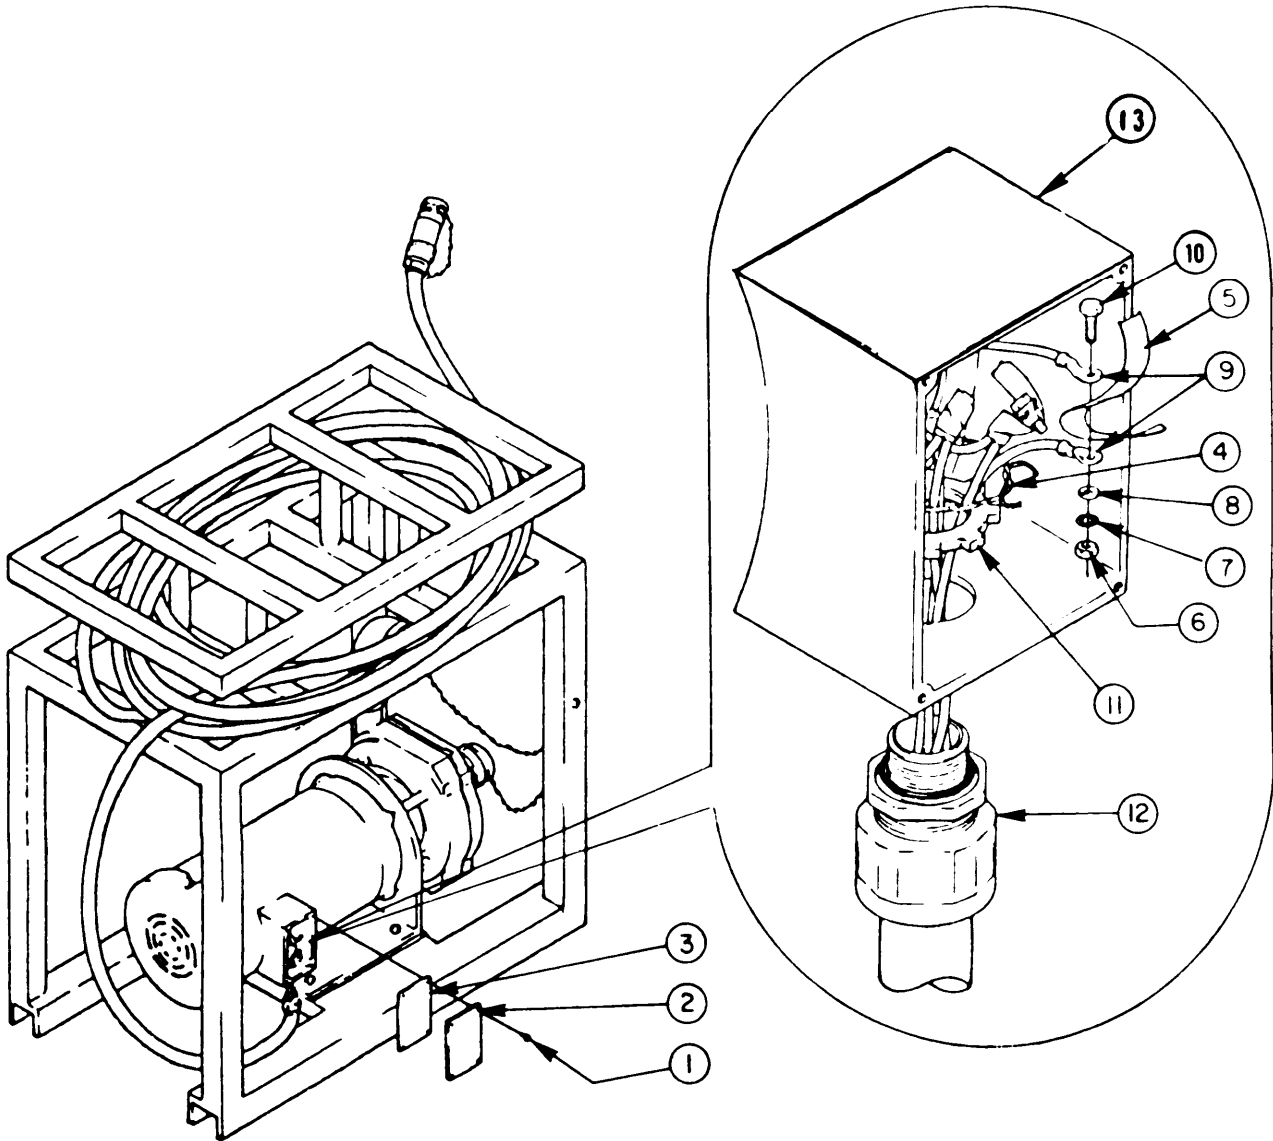

Figure 2-42. Distribution Pump Power Cable
b. Power Cable Assembly Removal. (Figure 2-42)
- (1) Remove four screws (1) from conduit box cover (2), conduit cover gasket (3), and conduit box (13).
- (2) Remove conduit box cover (2) and gasket (3) from conduit box (13).
- (3) Pull wires out far enough to expose taped ends and cut twine (4) that holds bundles together.
- (4) Remove tape (5) from ends of three sets of wires.
h. Power Cable Assembly Installation. (Figure 2-42)